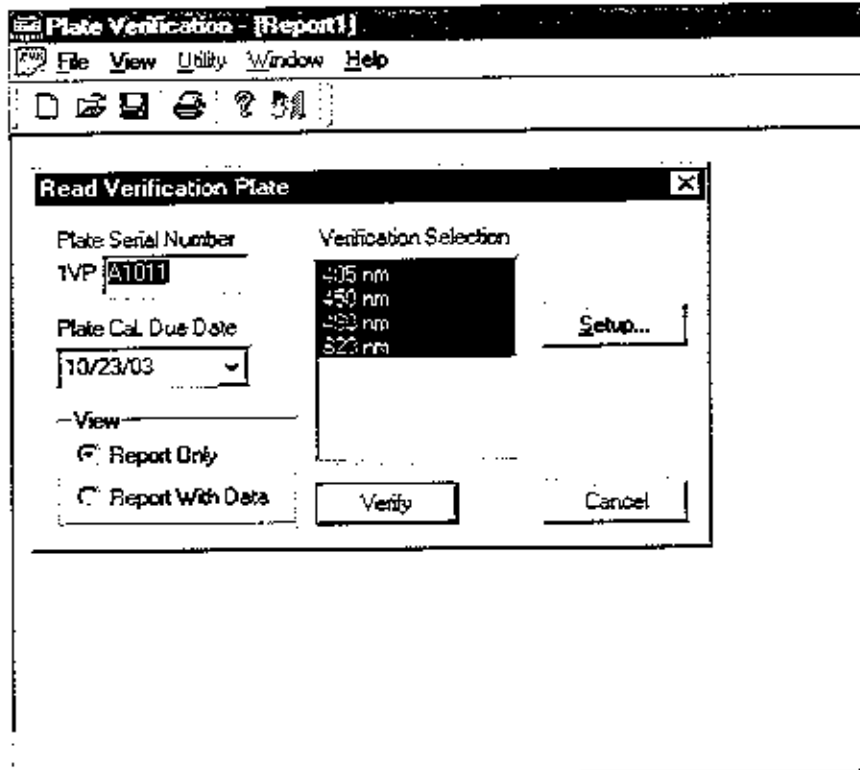

Figure 2, Verify
- 3) Select Utility from the menu bar and choose Verify. The Read Verification Plate dialog box will appear (See *Figure 2*).
- 5) Choose the wavelengths you wish to verify. In the Verification Selection box (*figure 2*) highlight (mouse click or ctrl-click for multiple wavelength selections) on the wavelength (s) you wish to verify.